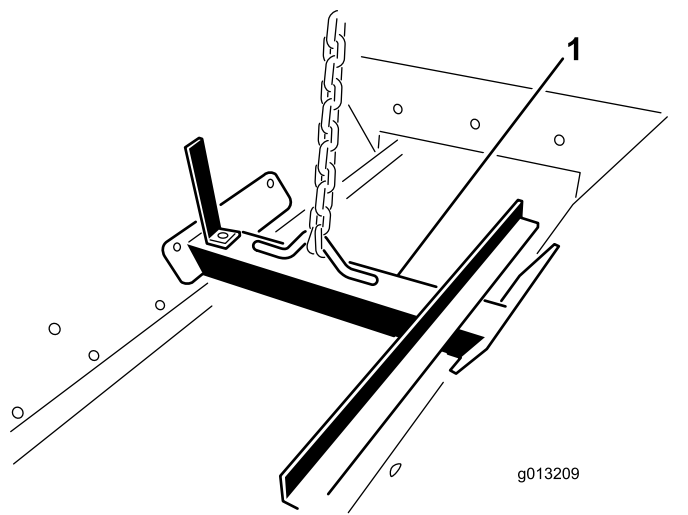

Figure 13
1. Attach a lifting device to the lifting bracket bolted inside the hopper assembly (Figure 13).